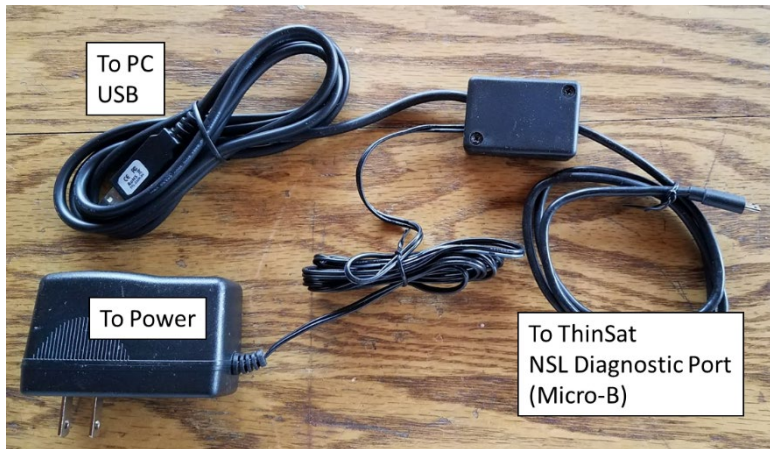

Figure 2 Micro-B to USB + power cable
- 1.2 Micro-B to USB + power cable (Figure 2)
- 7.1.2 Check the included cable with one end able to connect to NSL Diagnostic Port, and the other end splitting to a USB and a power supply. See Figure 2.